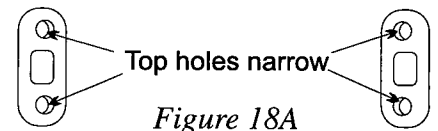

Figure 18A
Step 17. Refer to figures 18A and 18B. These are full size drawings of the throttle servo mounts (41) attached to the chassis in the two different configurations. Hold your servo up to these diagrams and align the mounting ears on your servo to holes in the mounts. This will determine how to mount the throttle servo mounts (41).
Step 14. Once you have determined the mounting position of the throttle servo mounts (41), attach each mount (41) to the chassis (27) with two 4-40 x 3/8" flat head screws (31) so that the mounts are offset the correct way from figure 18A or 18B.
**NOTE: If you do not have your radio system yet, or do not know which servo you will use for throttle at this time, attach the servo mounts according to figure 18A and continue. The direction of the mounts can be changed once you have determined which servo you will use.*